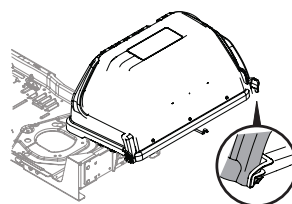

Figure 9
5. Swing the hood assembly down to close the attachment. Push in on the rear right-side and rear left-side tabs and lock them into place under the notches on each side. Ensure a secure, snug fit. See Figure 9.